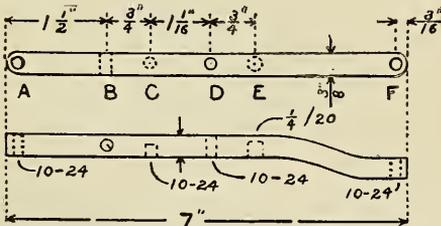

FIG. 29. DETAILS OF KEY
Fig. 29 is a detail drawing of this key. Six holes, (A), (B), (C), (D), (E) and (F) are located and bored in the positions indicated in the illustration. (A) and (D) pass all the way through the lever and are threaded with a 10-24 tap to receive a thumbscrew having a similar thread. (F) also passes all the way through but is not threaded. A 10-24 brass machine screw $\frac{1}{2}$ inch long under the head passes through